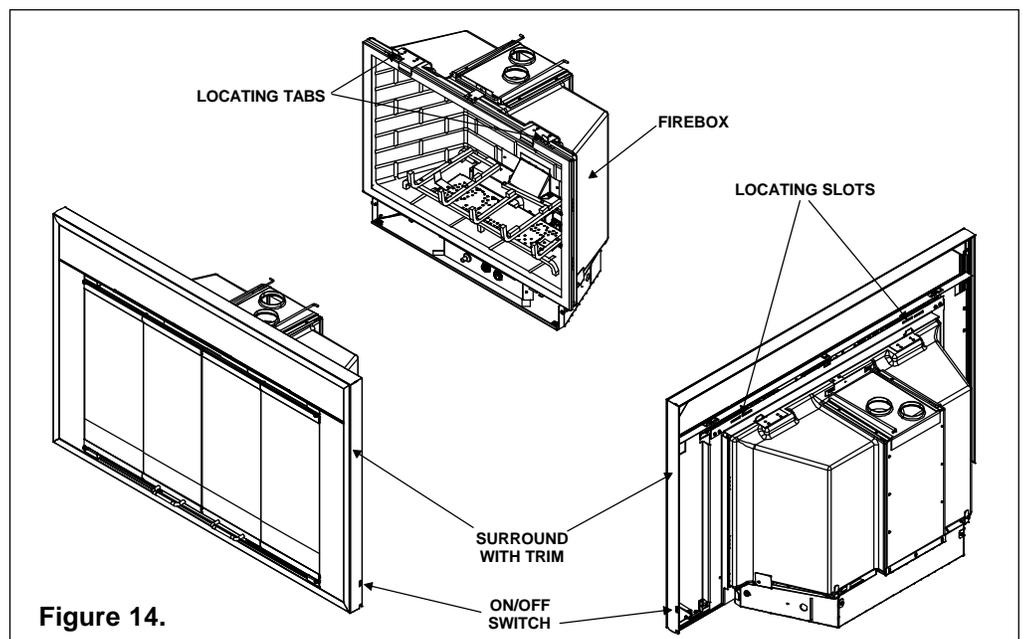

Figure 14.
- Find the coiled low voltage wires and ON/OFF switch attached to outer right side of the insert (see Figure 14).
4. Attach surround assembly by hooking the support bracket on the locating tabs on top of the gas insert fireplace (see Figure 14.) Once the surround assembly is on the locating tabs, ensure the bottom hooks are resting on the locating pins at the base. Reposition the fireplace if necessary. Refer to surround instructions provided with the decorative surround.